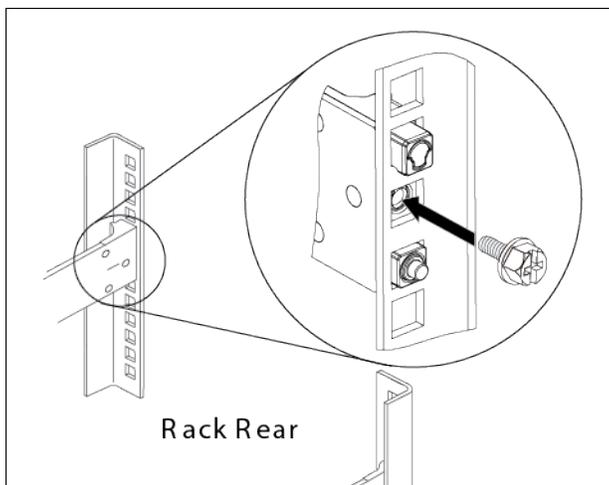

Figure 4: Secure the Appliance on Slide Rails in the Rack
- 4 Secure the appliance slide rails in the rack, as shown in Figure 4: Secure the Appliance on Slide Rails in the Rack on page 9: